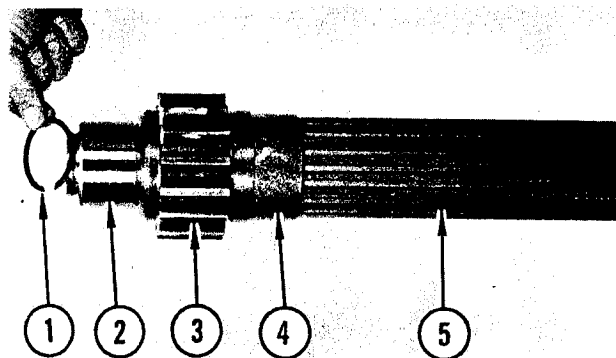

FIGURE 90. REMOVE 15 TOOTH GEAR
Remove 50 tooth gear and 34 tooth gear from upper shaft. Refer to Figure 90 and remove the following in the numerical sequence as shown. Retainer ring (1), bear-